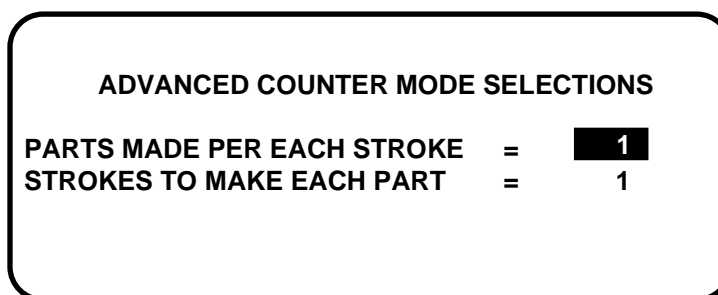

Figure 5-9. Advanced counter mode
1. From the Counter Mode Selections screen, press **F1** (ADV. MODES). The screen appears similar to Figure 5-9.
6. *If you had selected "Auto enable by sensor and tool" in Initialization mode (Chapter 4), a screen appears asking you to enter the stroke value. If you had selected "Auto Enable by tool" in Initialization, this screen will not appear (refer to Figure 5-9 towards the beginning of this section).*